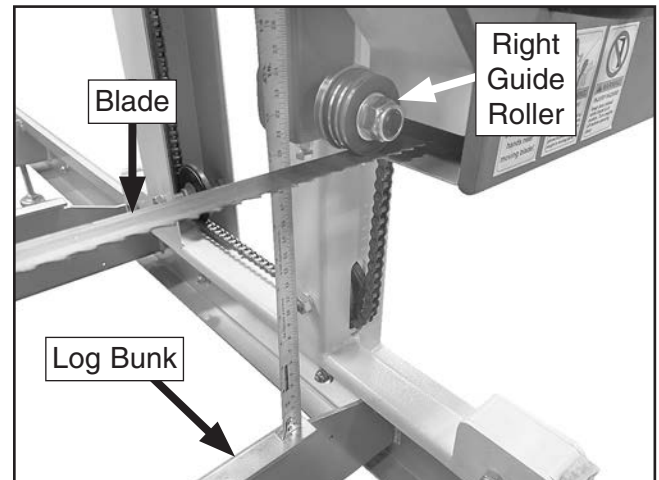

Figure 38. Distance between blade and log bunk just inside right blade guide.
6. Measure distance from blade just inside right guide roller to top of log bunk (see **Figure 38**).